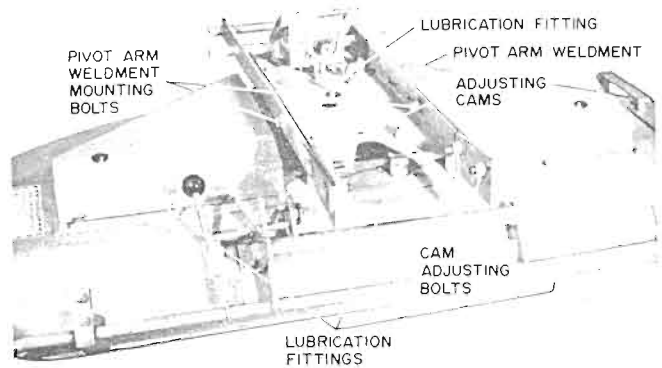

fig 5
6. Bolt pivot arm weldment to gearbox housing support; bolt heads outside, nuts and washers to the inside, fig 5.
7. Apply a light coat of general purpose grease to splined portion of gearbox drive shaft. Slide female end of the drive shaft universal joint onto the gearbox shaft. Be sure that bolt holes align. Fasten the "U" joint to gearbox shaft with bolt and locknut: Items 10, 12, 13 and 19, fig 5.
4. The drive shaft is lubricated from the top of the mower through the grease fitting on the female end "U" joint. Add grease until it comes out about the rectangular shaft, Items 9, 10 and 12, fig 5.